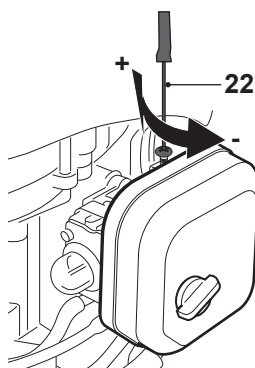

Fig. 21
- > Adjust the idle speed with the screw driver (22) at the idle speed adjustment screw (Fig. 21).